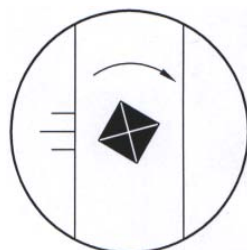

Figure 6-16 Incorrect image
5. If the image is as Figure 6-16 illustrates, you have to loosen the screw and slightly turn the indenter, conduct the step 2-4 until you get the correct image.